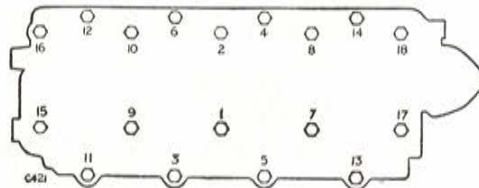

Fig. 2. Order of tightening cylinder head bolts
6. Check cylinder head bolt tightness in the order indicated at Fig. 2, ensuring that all the $\frac{1}{2}$ in. nuts and bolts are pulled down to 90 lb. ft (12,5 mkg).